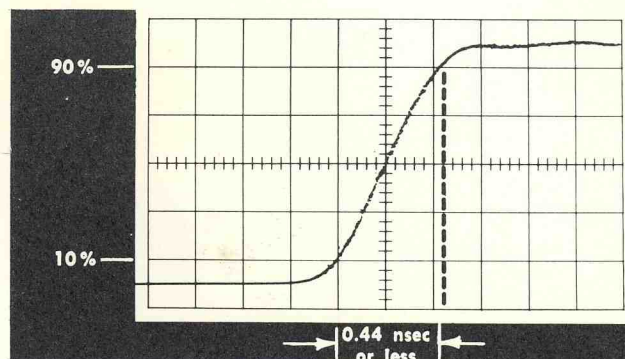

Fig. 6-9. Measuring the risetime. Equivalent sweep rate is 0.2 nsec/cm.
- f. Vertically position the waveform 5 mm above the bottom graticule marking (see Fig. 6-9).